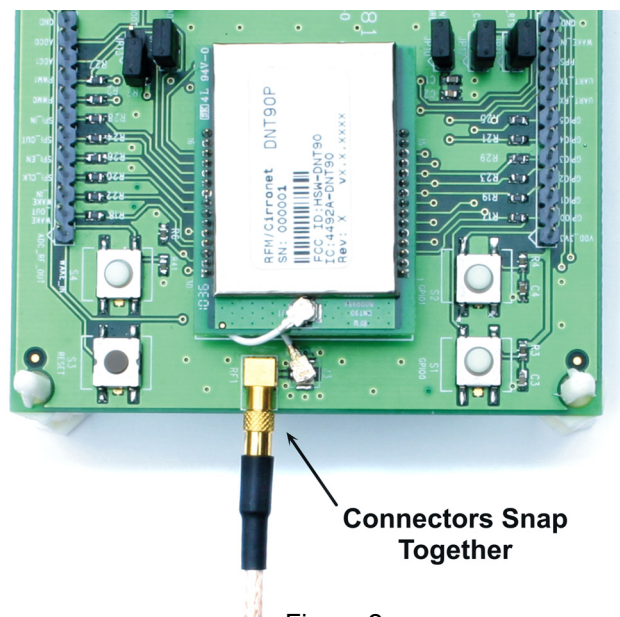

Figure 2
2. As shown in Figure 2, confirm each DNT90P is correctly plugged into an interface board, with the radio oriented so that its U.FL connector is next to the U.FL connector on the interface board. Check each radio's alignment in the socket on the interface board. No pins should be hanging out over the ends of the connector.
3. Next, screw each dipole antenna into an adaptor cable and “snap” the other end of the adaptor cable into the MMCX RF connector on the development board as shown in Figure 2. Note that no external antenna is required when using the DNT90PA radios supplied in the DNT90ADK kits.